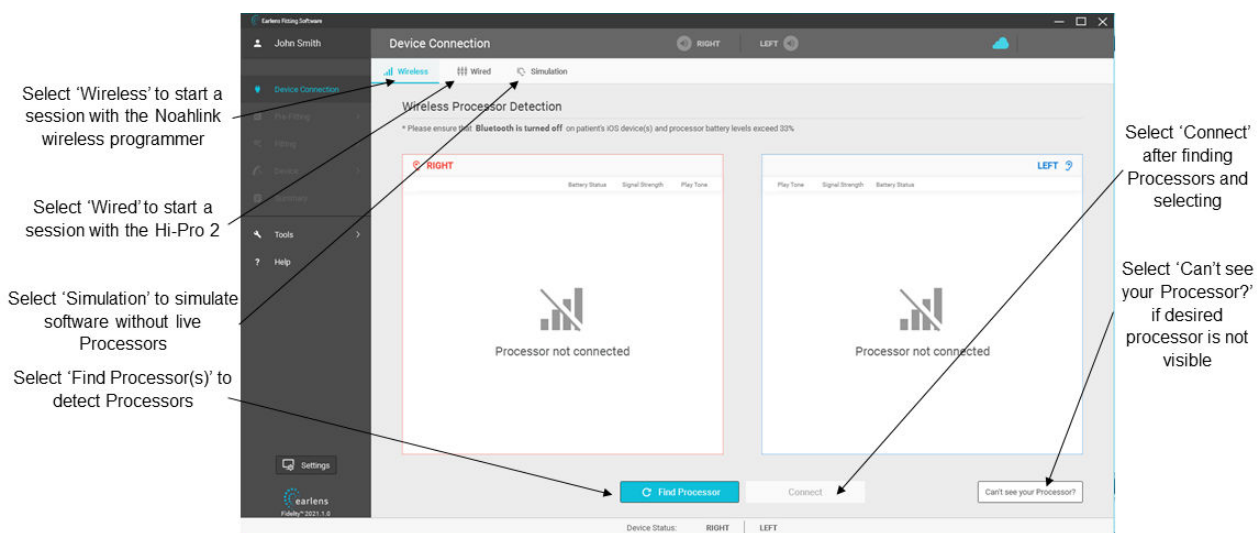

Figure 11: Device Connection screen
- **Device Connection:** Detect Processors, start a fitting session, and access Simulation mode (Figure 11).
- f. The “Device Connection” screen will open (Figure 11).
- e. The “Device Connection” screen will open (Figure 11).